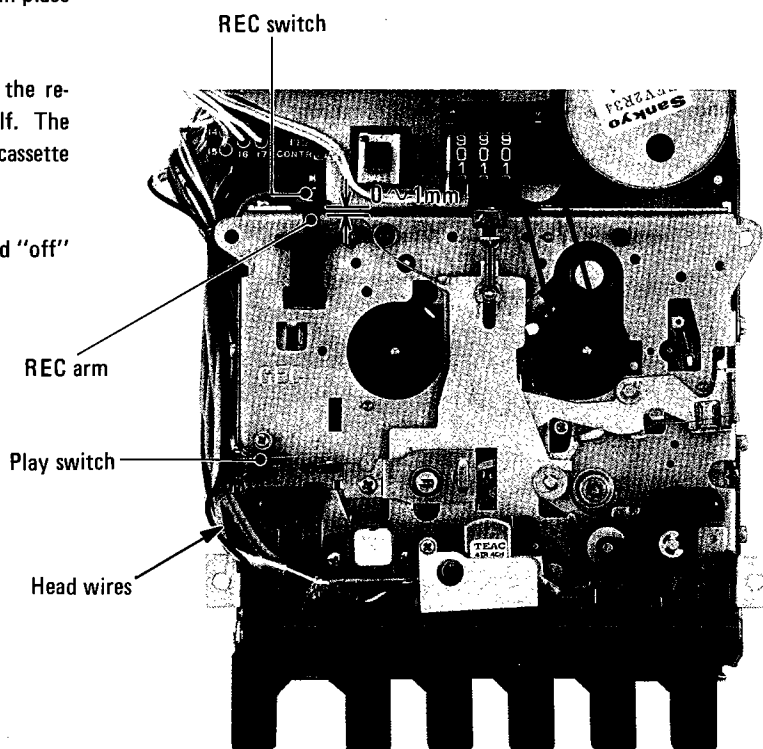

Fig. 7-4 REC switch and play switch
2. After replacing the head, place the mechanism Ass'y with a room so that the head wires as shown in the Fig. 7-4 are not stretched or not give any load when the head base moves.
4. Confirm that each part of the mechanism Ass'y is placed in place in exchanging the mechanism Ass'y. (Refer to Fig. 7-4)